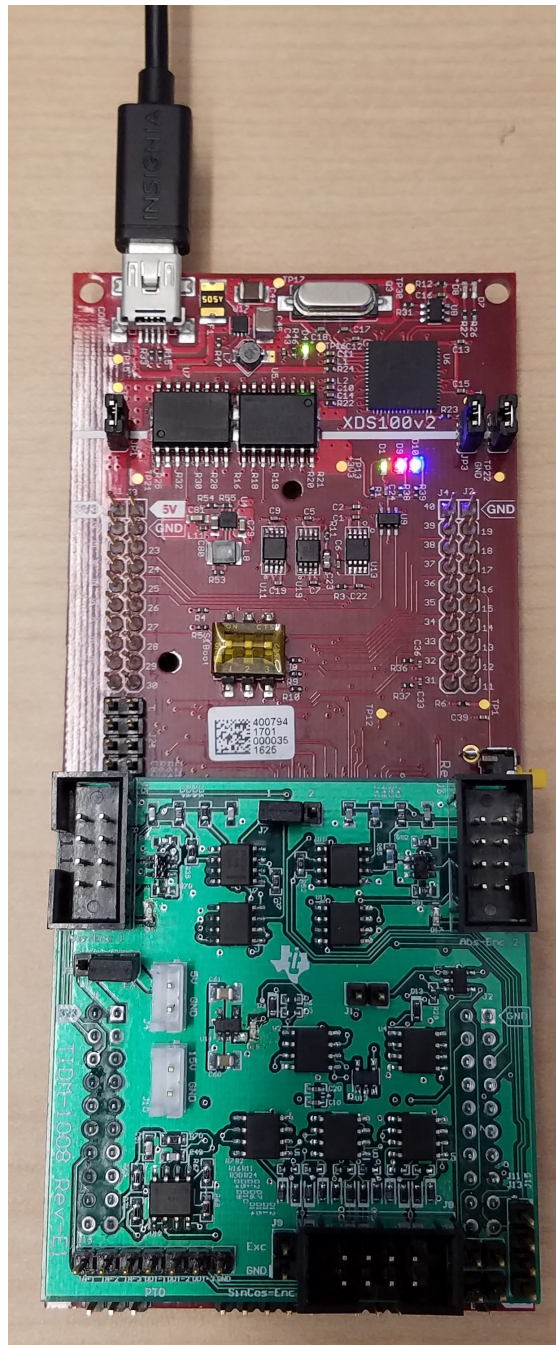

图 9. TIDM-1008 Board Connected to Site Two of LaunchPad™
2. Connect TIDM-1008 to the LaunchPad using the BoosterPack connector (J1-J3 and J4-J2). Make sure TIDM-1008 is connected to site two of the LaunchPad as shown in 图 9.